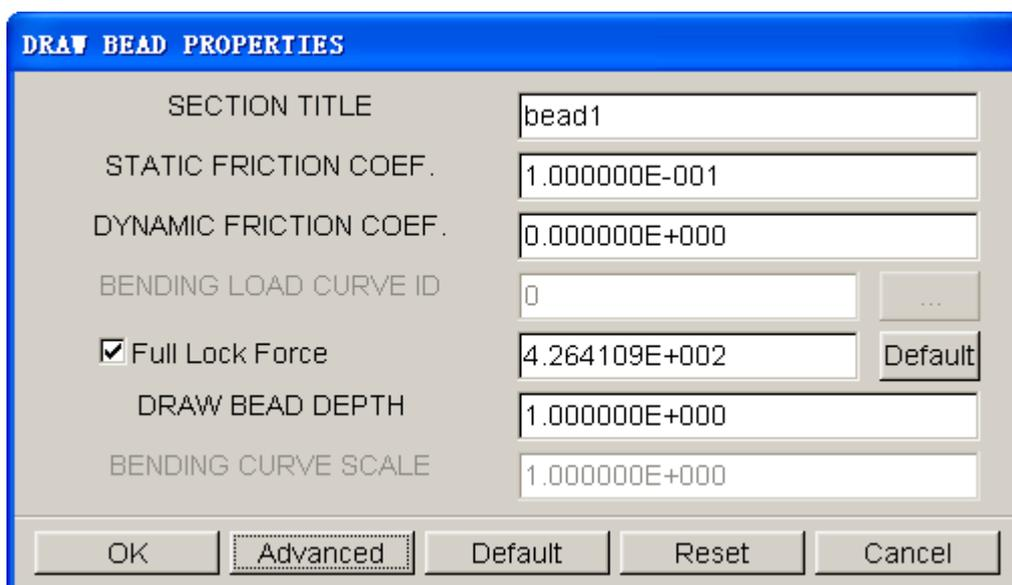

Figure 7.28 Drawbead properties window
3. The DRAWBEAD PROPERTIES window illustrated in Figure 7.28 is displayed.